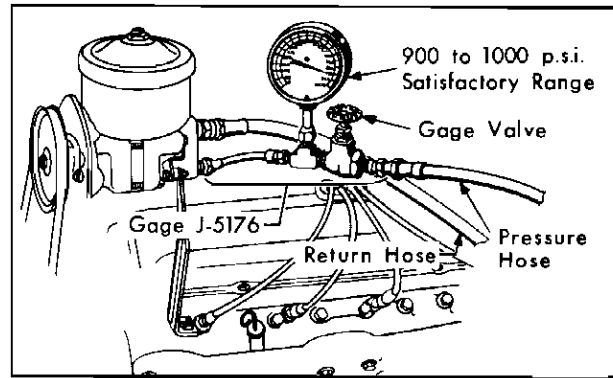

Fig. 7-10 Checking Pump Pressure
2. Install Checking Gauge, Tool No. J-5176, on union at pump, with gauge valve closed, Fig. 7-10.